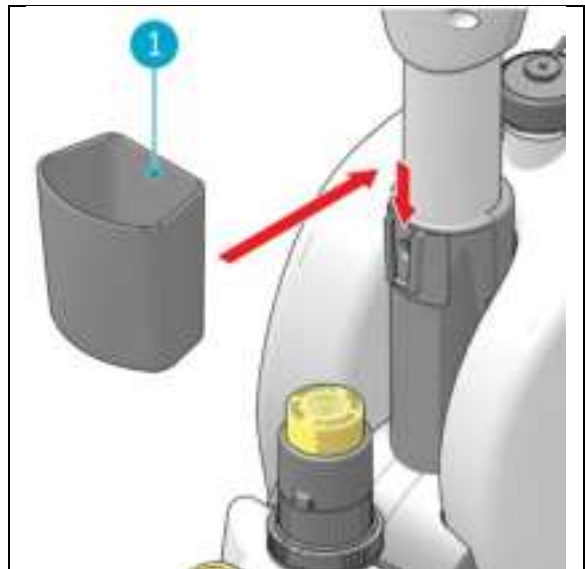

Figure 12
1. Slide the rear of the recycle bin (Figure 12, pos 1) into the recycle bin slot.